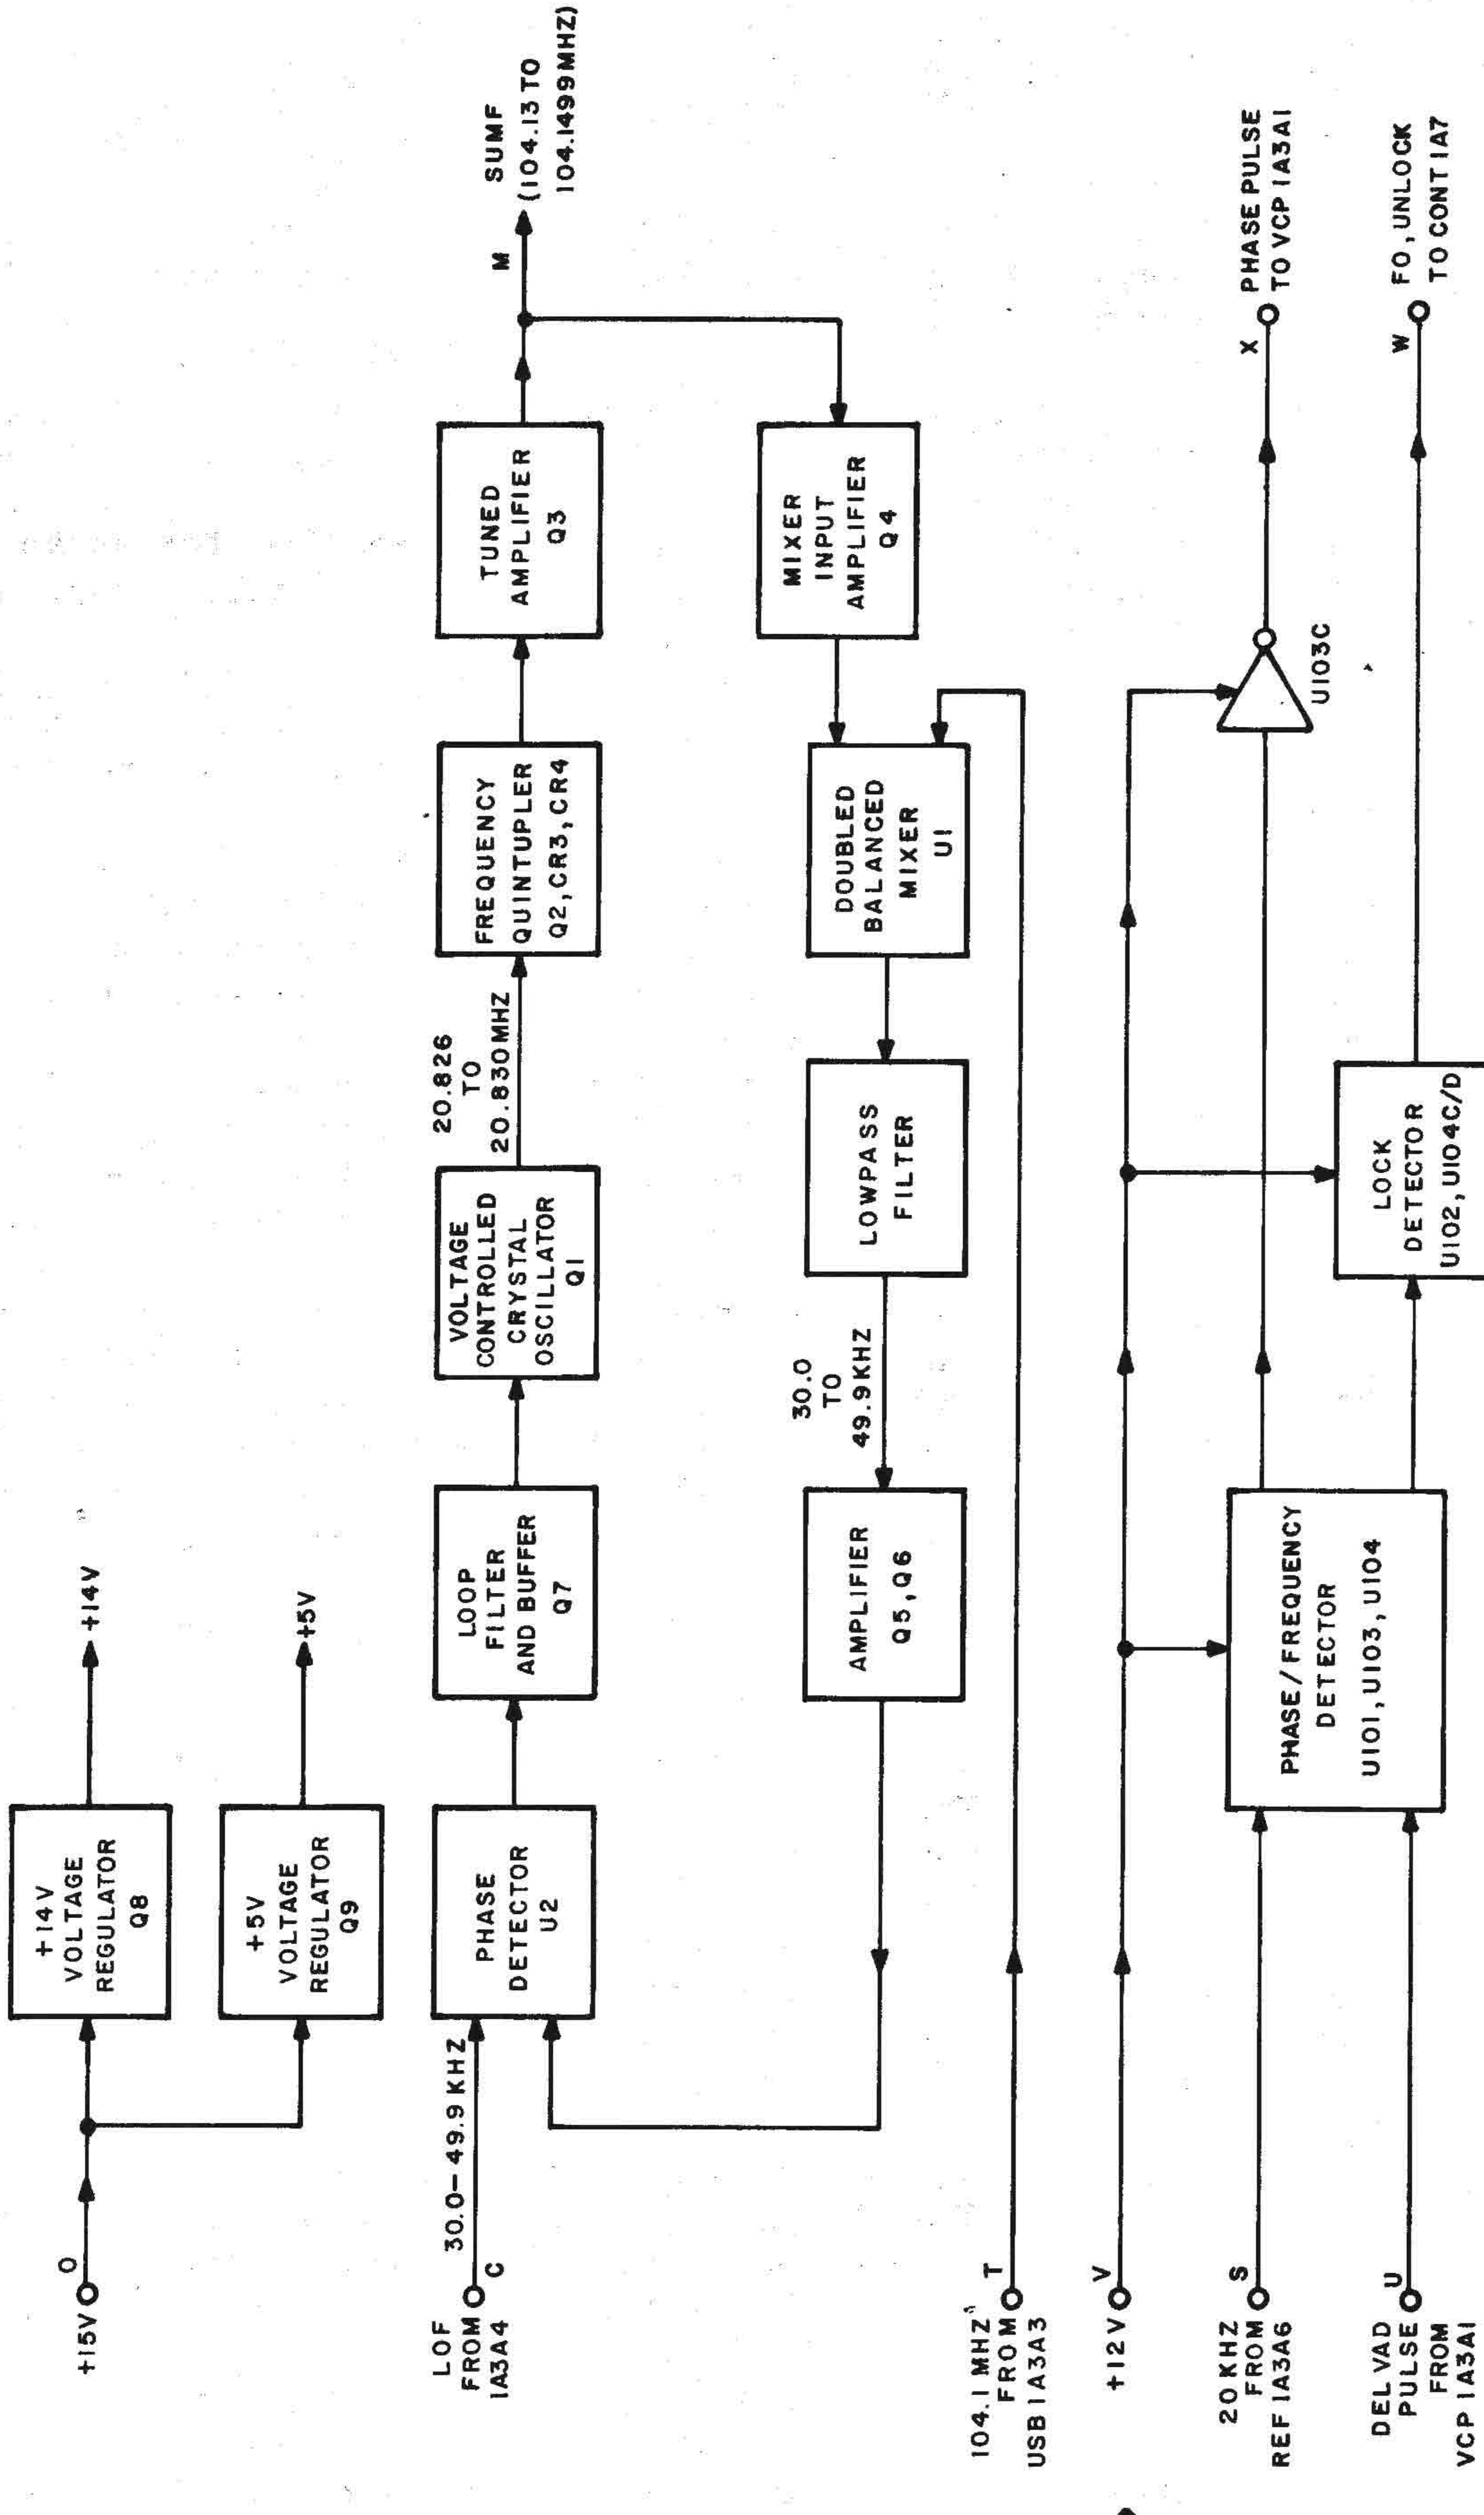

Fig. 2-59. Module SUM 1A3A5, block diagram
2-20. Module SUM 1A3A5 (fig. 2-59, 2-60, 2-61)
a. Block Diagram Analysis (fig. 2-59). Module SUM 1A3A5 contains a phase-lock loop, which adds the 30-to-49.9-kHz variable output frequency of module LOL 1A3A4 to the 104.1-MHz generated by the USB 1A3A3 module (refer to fig. 2-4 and to para. 2-22). The module also contains the digital part of the main phase detector; the other parts are contained in module VCP 1A3A1. The LOF signal received from module LOL 1A3A4 is applied to one of the phase frequency detector inputs, the other input is the difference between the SUMF and the 104.1-MHz signal received from module USB 1A3A3. The phase/frequency detector generates a control voltage. In normal operation (locked mode), the phase detector provides a control voltage proportional to the phase difference between its two aforementioned input signals. The control voltage is filtered by the loop filter and applied through a buffer to the control input of the voltage controlled crystal oscillator (VCXO). In case lock is lost, the phase detector provides a constant output level (high or low, according to the frequency difference between the input signals), which causes the VCO frequency sweep toward the desired frequency. After the VCXO frequency is sufficiently close to the desired frequency, the phase detector returns to the normal mode and the resulting control voltage locks the VCXO at the desired frequency.